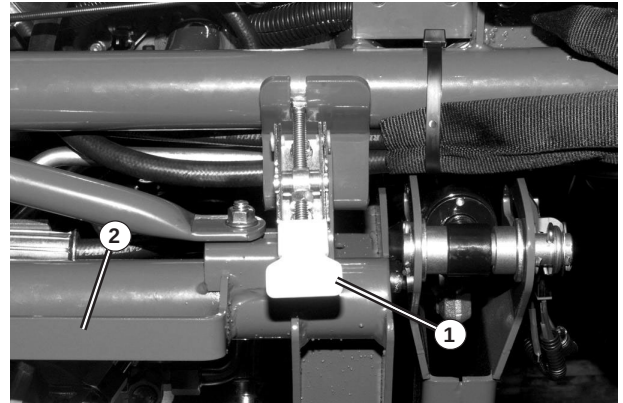

Figure 5.16.1
2. Release the draw latch (See Fig. 5.16.1).
8. Shut off the unit and swing the rear arm back under the unit and secure the arm with the draw latch (See Fig. 5.16.1).